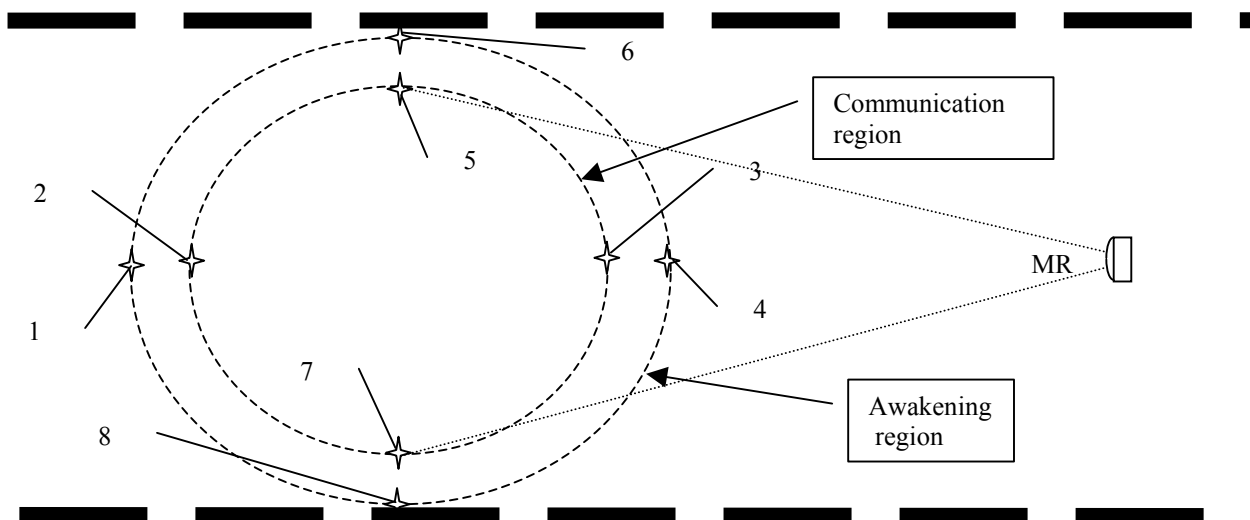

Fig.7.1 MultiReader footprint measurements.
Point the test tag towards the MR and hold it 1 m above the ground. Start walking right towards the MR. When the red LED lights, mark this point (1) (example shown in fig.7.1) on the ground. Continue towards MR, and when the green LED starts blinking, put a mark (2) on the ground. Carry on towards MR and notice that both LED's light. When the green LED starts blinking, put a mark (3) on the ground. Proceed until the red LED shuts down. Put a mark (4) here.